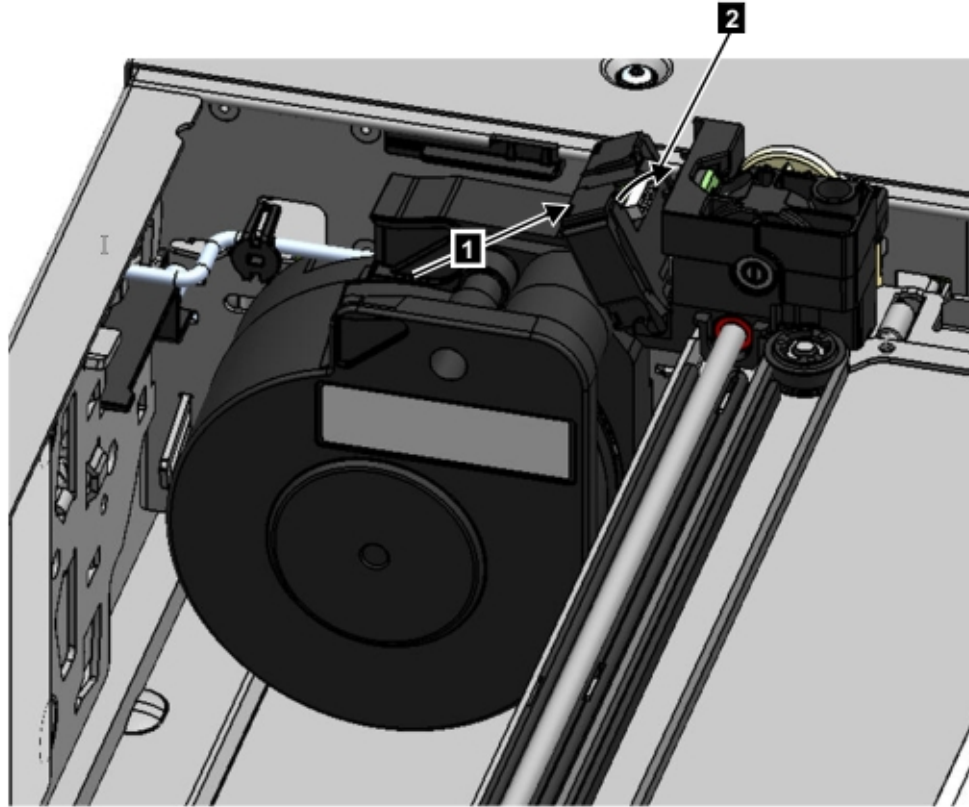

Figure 79. Installing the spooling cable
5. Place the spooling cable into the grooves where it attaches to the accessor and rotate it until it snaps into place. See Figure 79 on page 131.